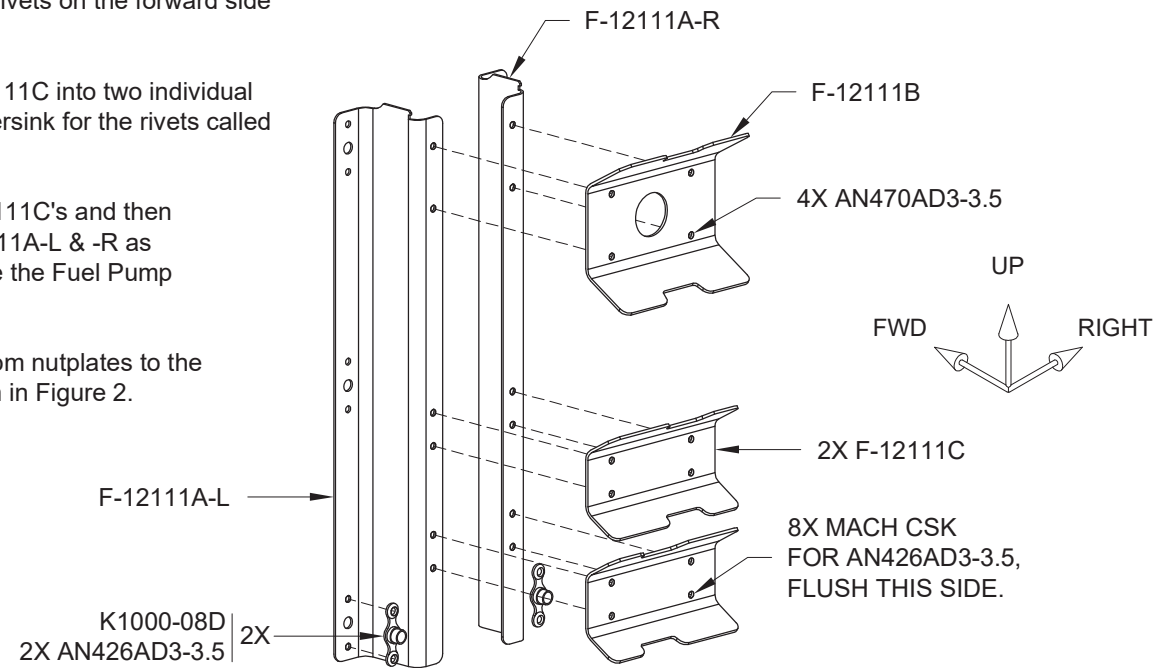

FIGURE 2: FUEL PUMP BRACKET ASSEMBLY
Step 6: Separate the F-12111C into two individual parts, then machine countersink for the rivets called out in Figure 2.
Step 7: Rivet the two F-12111C's and then the F-12111B to the F-12111A-L & -R as shown in Figure 2 to create the Fuel Pump Bracket Assembly.
Step 8: Rivet only the bottom nutplates to the F-12111A-L & -R as shown in Figure 2.